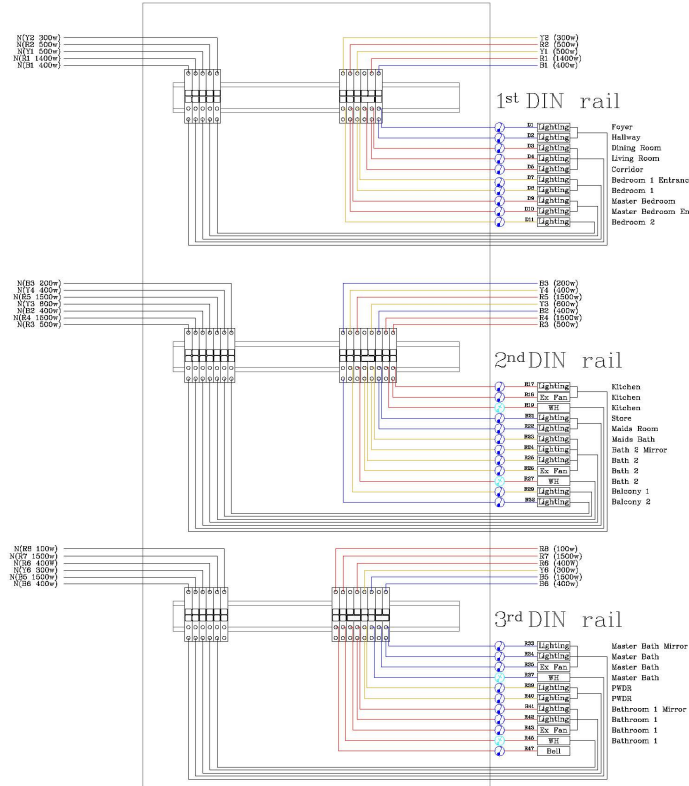

Figure 1.1.6: 1st, 2nd and 3rd Din rail Schematic Diagram
- D1, D2, D3... up to D16 for Dimmer Module Channels. The connections termination should start from the right side of the 1stDIN rail as shown in Figure 1.1.6.
- R17, R18, R19... up to R48 for Relay Module Channels. The connections termination should start from right side of the 2nd and 3rdDIN rails as shown in Figure 1.1.6.
- The loads connections to the dimmer module are shown in Figure 1.1.6.
- The loads connections to the relay module are shown in Figure 1.1.6.